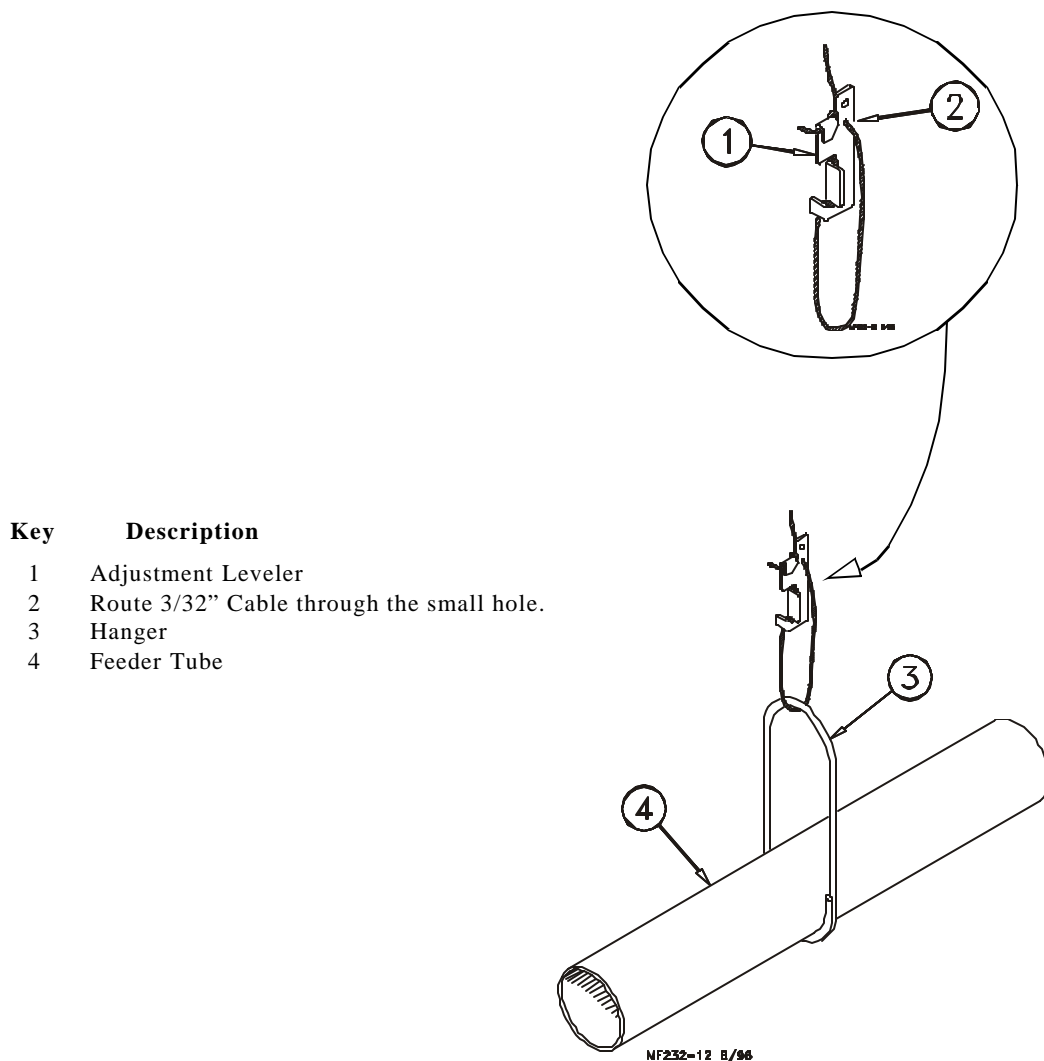

Figure 28. Adjustment Leveler and Hanger Installation
6. Install the Hangers on the tubes on the 8' (2.4 m) spacings determined by the suspension drop lines. Figure 28 shows the proper installation of the Hanger Assembly. Make sure the outlet drop hole is down when the Hangers are installed, otherwise feed will not be allowed to drop into the feeder pan.
7. Install Adjustment Leveler within 6" (152 mm) of feeder line hanger. Figure 28 shows the proper cable routing around the Adjustment Leveler.